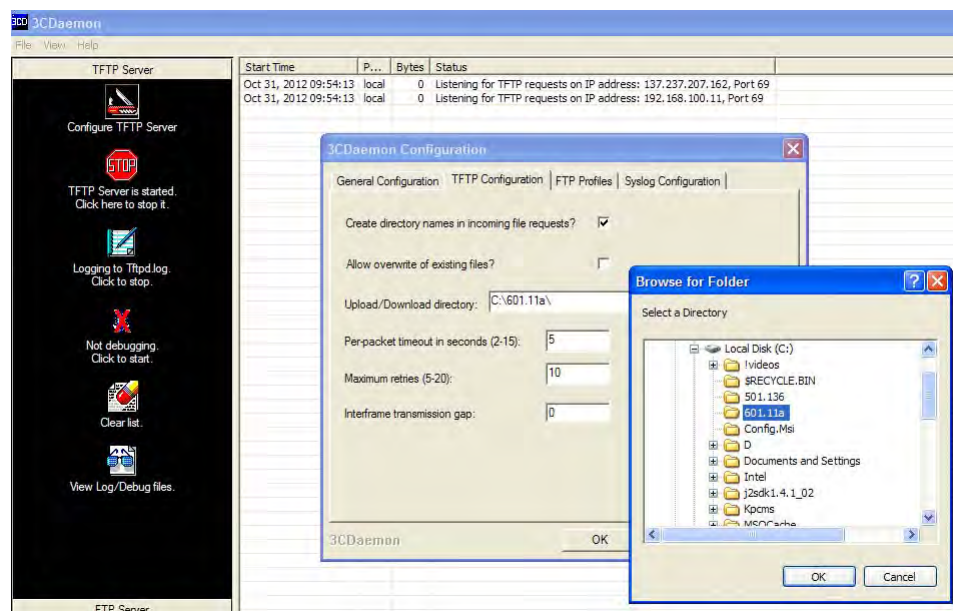

Figure 4-35. 3C Daemon Configuration for New Code Upload to an RMXd Console
5. Start 3C Daemon (Figure 4-35).